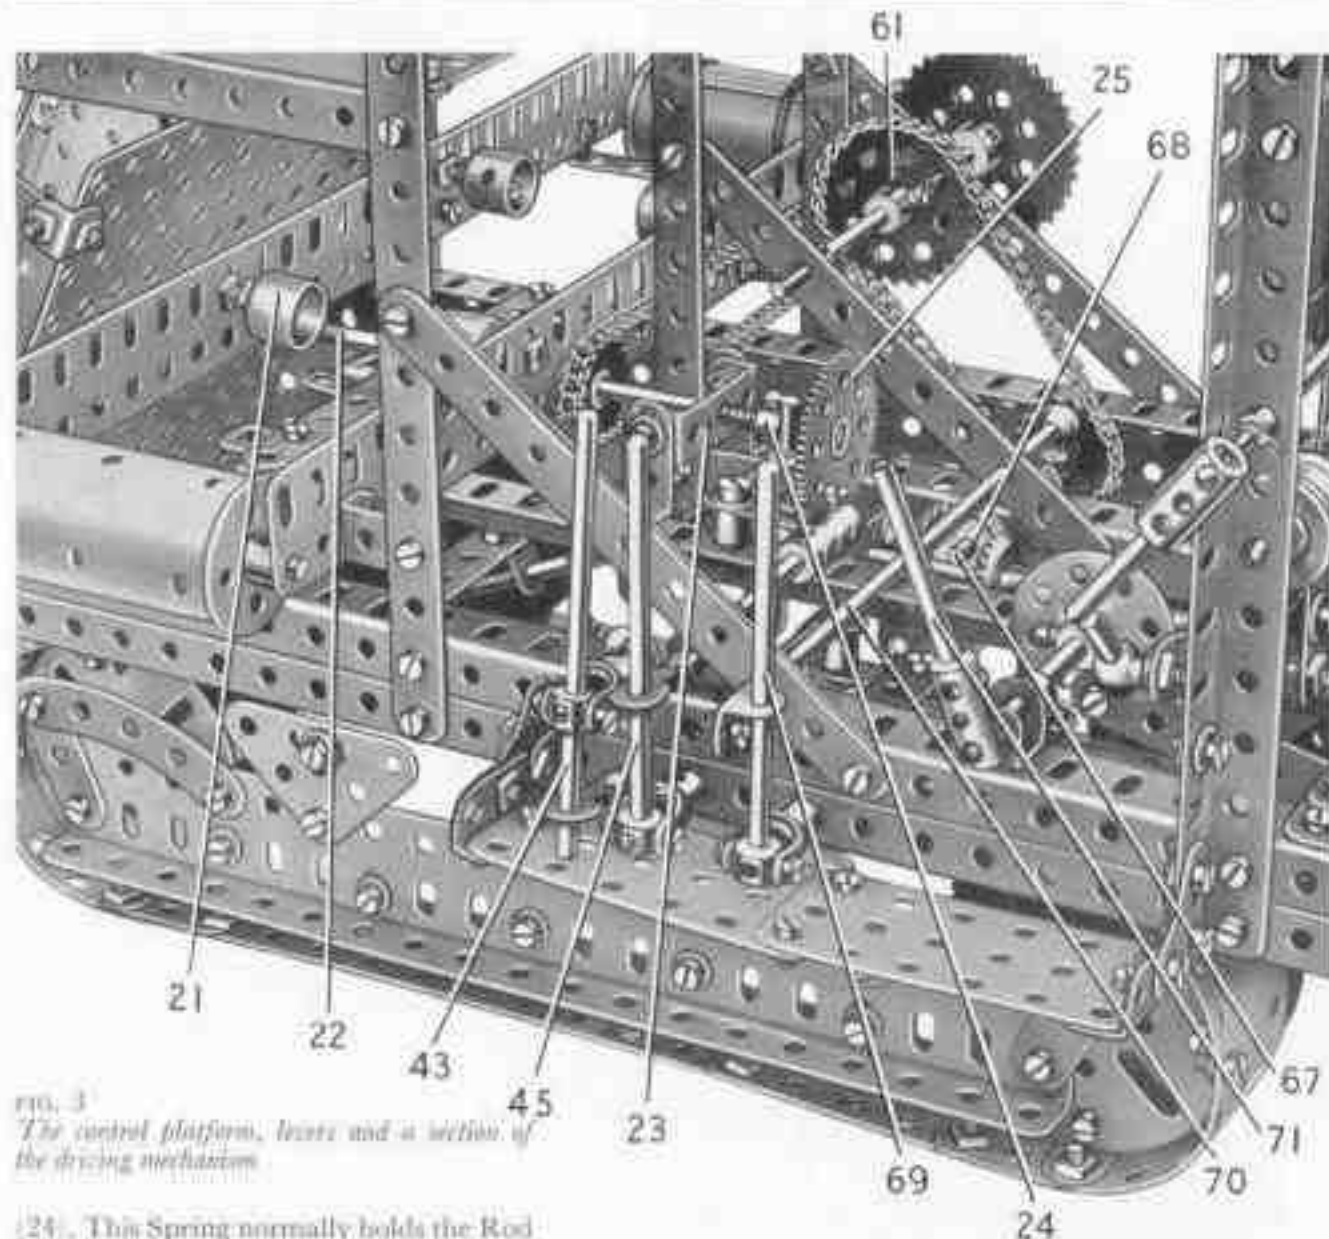
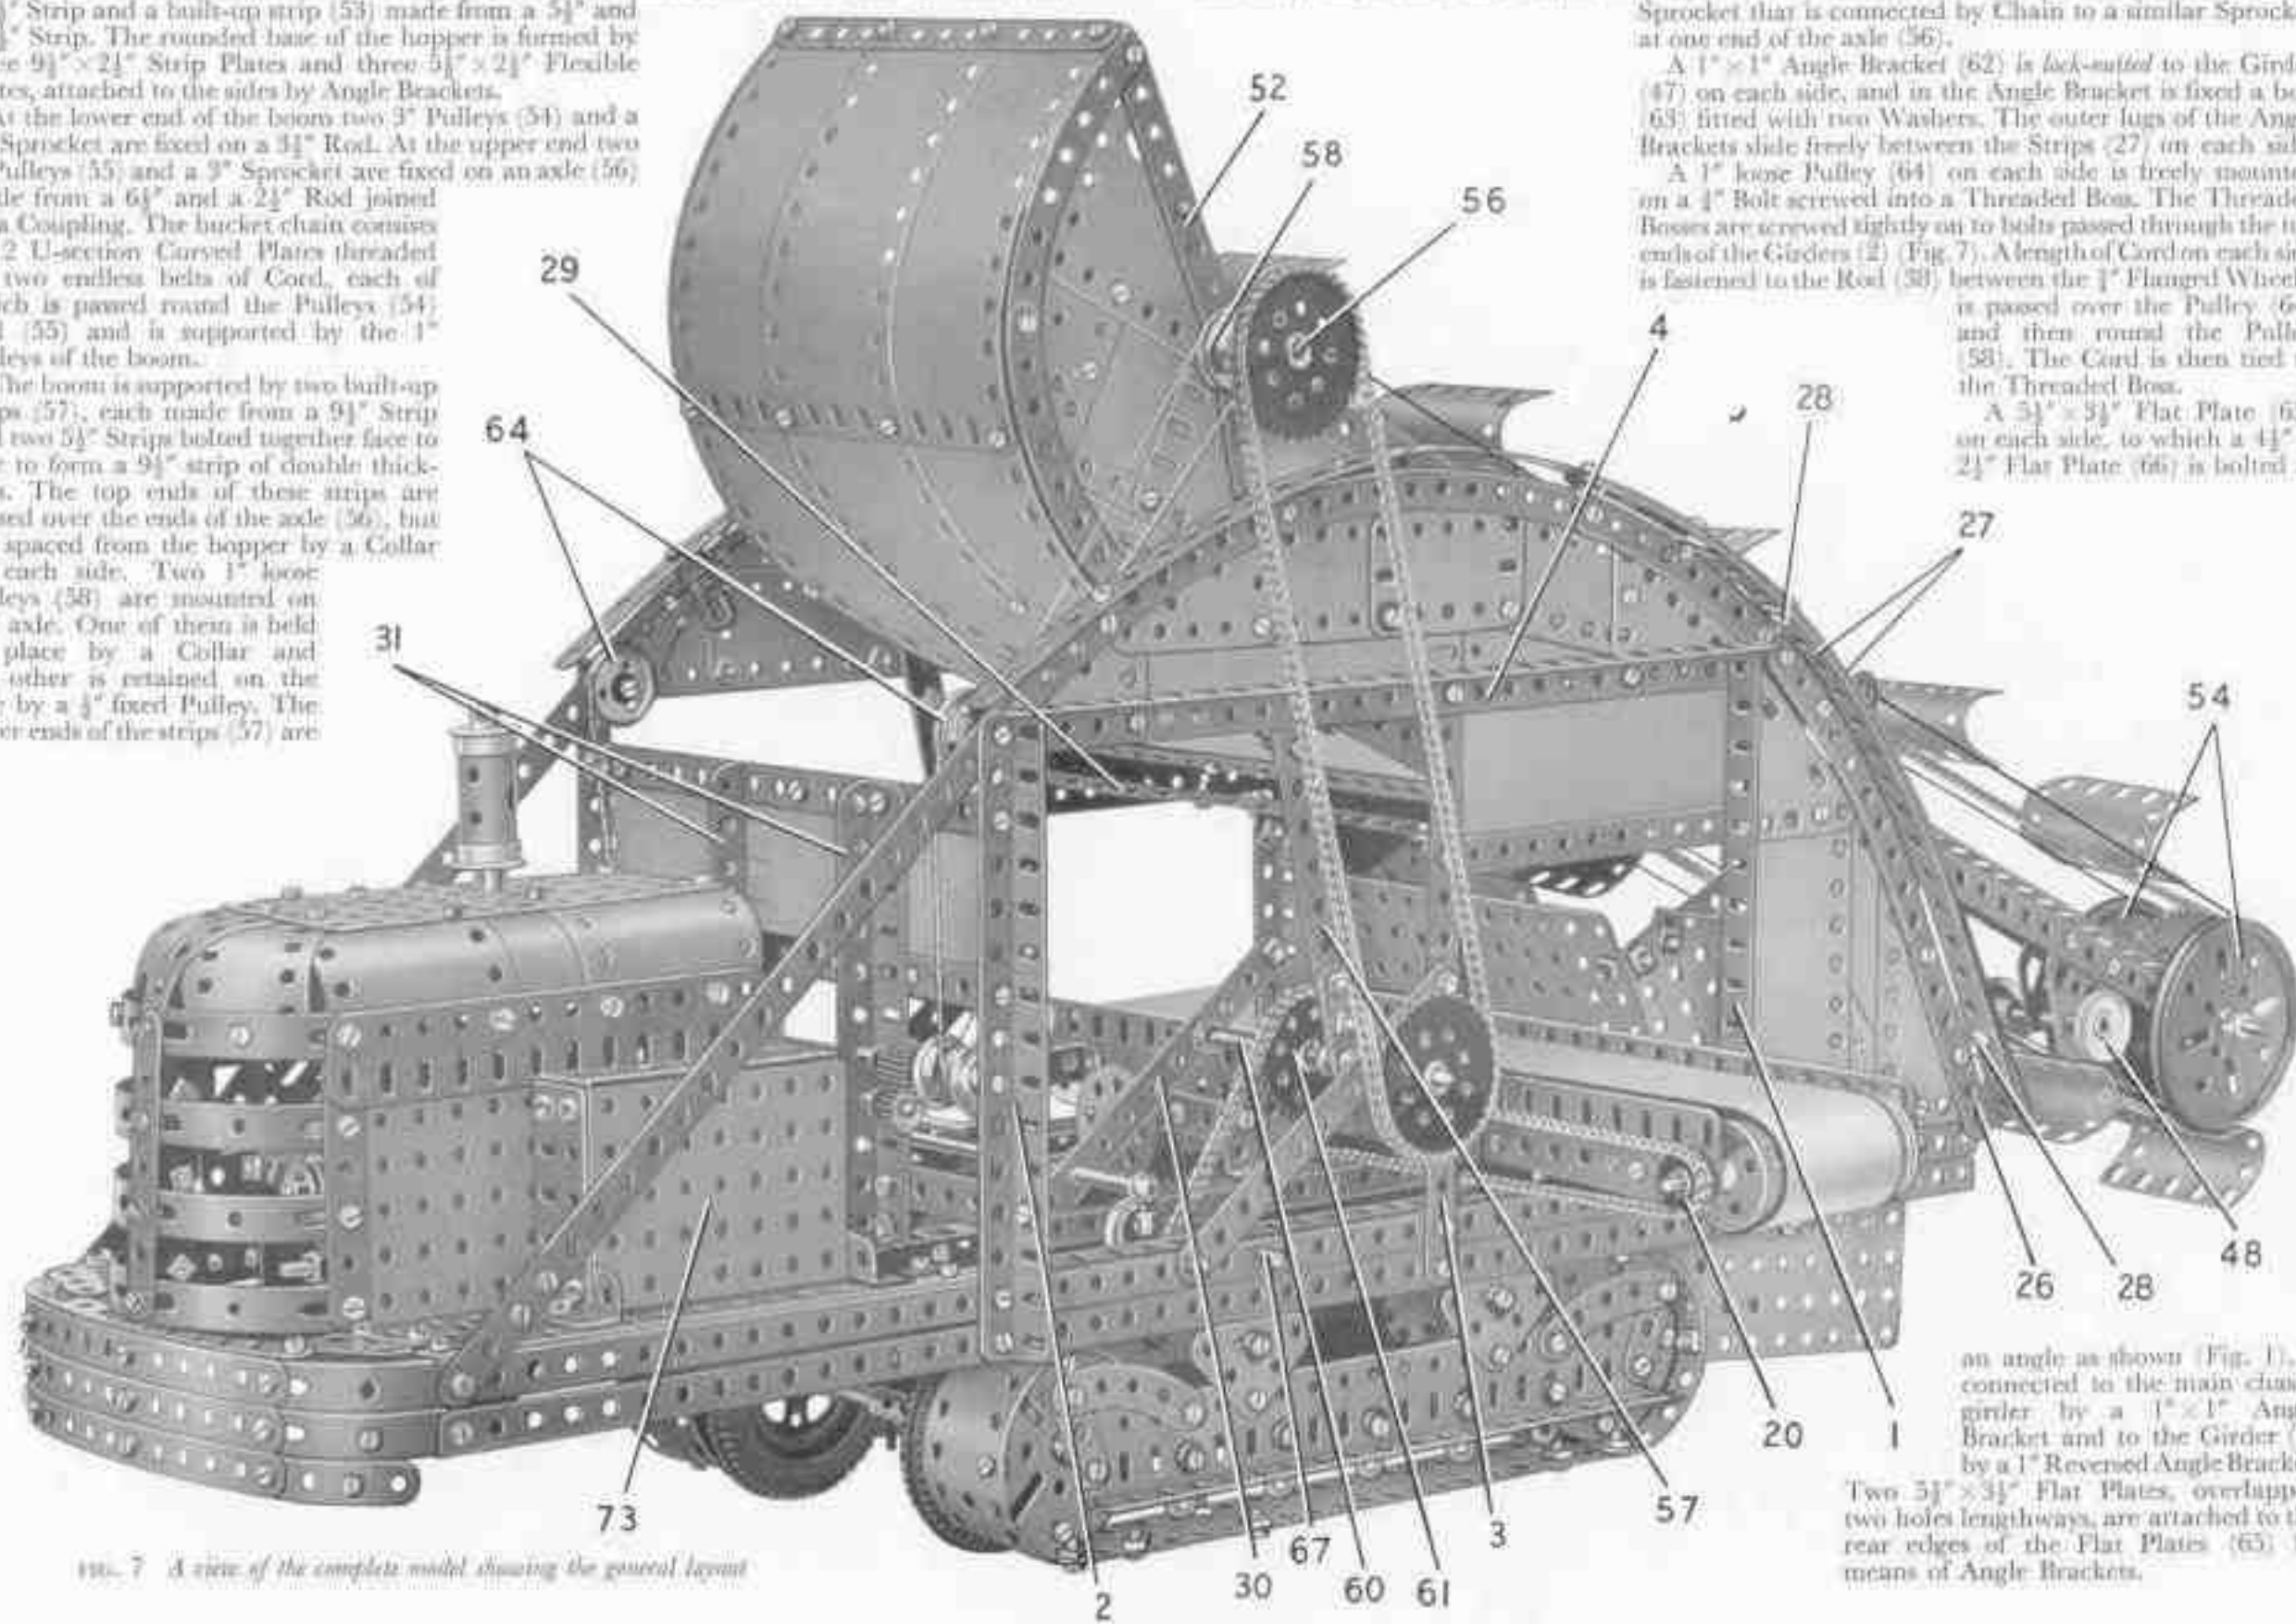

FIG. 3
FIG. 7 A view of the complete model showing the general layout
Each side-member of the chassis consists of two $2\frac{1}{2}$ " Angle Girders arranged to form a channel section girder by bolting to them two $7\frac{1}{2}$ " Angle Girders (1) and (2) and a $7\frac{1}{2}$ " Strip (3) (Fig. 7). The top ends of the Girders (1) and (2) and the Strip (3) are connected by bolting to them a $12\frac{1}{2}$ " Angle Girder (4). The side-members are connected by two built-up strips (5) and (6) (Fig. 2), each made from two $5\frac{1}{2}$ " Strips overlapped seven holes. Two similar built-up strips (7) and (8) are fixed in position, and a further built-up strip (9) (Fig. 3) is bolted across the chassis. The strip (9) is made from two $4\frac{1}{2}$ " Strips overlapped three holes. Two $10\frac{1}{2}$ " Angle Girders (10) are bolted to the strips (5) and (6) as shown.
The Motor switch is operated by a lever (71) (Figs. 3 and 6) formed by a $2\frac{1}{2}$ " Rod in a Coupling. The Coupling is fixed on a $3\frac{1}{2}$ " Rod mounted in Double Brackets bolted to the chassis, and the
The conveyor frame consists of two $12\frac{1}{2}$ " Flat Girders, one of which is attached to the Girders (1) (Fig. 7) by $1\frac{1}{2} \times \frac{1}{2}$ " Angle Brackets while the other is similarly attached to the Strips (3). A $3\frac{1}{2} \times \frac{1}{2}$ " Double Angle Strip (19) (Fig. 2) is bolted between the Flat Girders at one end.
The main conveyor rollers are formed by $1\frac{1}{2}$ " Flanged Wheels pressed into Cylinders, and each is fixed on a $4\frac{1}{2}$ " Rod mounted in the Flat Girders. The Rod that supports the driving roller carries a $\frac{1}{2}$ " Sprocket (20) (Fig. 7), and two $2\frac{1}{2}$ " Driving Bands are stretched round this roller. The belt can be made from a length of cloth or strong paper joined together at its ends. The supporting rollers (21) (Fig. 3) are Chimney Adapters, each of which is free to turn on a $\frac{1}{2}$ " Bolt and is held against the head of the Bolt by two nuts screwed against each other.
The Sprocket (20) is driven by a $1\frac{1}{2}$ " Sprocket on a $6\frac{1}{2}$ " Rod (22) (Fig. 3). This Rod is supported in the conveyor frame and in a $1\frac{1}{2} \times \frac{1}{2}$ " Double Angle Strip (23) that is attached to $1\frac{1}{2} \times \frac{1}{2}$ " Angle Brackets bolted to the Girders (10). A Compression Spring is fitted on the Rod between Double Angle Strip (23) and a Collar
(24). This Spring normally holds the Rod so that a 57-tooth Gear (25) on it is kept clear of the Pinion (15) (Fig. B). The Gear and Pinion can, however, be brought into mesh by sliding the Rod, to engage the drive to the conveyor. The movement of Rod (22) is restricted by a Collar placed inside the conveyor frame, and is controlled by a lever (45) (Fig. 3). This lever is a $3\frac{1}{2}$ " Rod fixed in a Swivel Bearing attached to the chassis by a Pivot Bolt. The lever carries as shown a Rod and Strip Connector fixed on a $\frac{1}{2}$ " Rod that slides in a Double Bracket bolted to the chassis. A Strip Coupling on the $\frac{1}{2}$ " Rod is connected by a $\frac{1}{2}$ " Bolt to one arm of a Bell Crank, and this is mounted freely on a Pivot Bolt fixed in one of the Girders (10). The other arm of the Bell Crank carries a Threaded Pin that engages between the Collar (24) and the Gear (25).
A 1" loose Pulley (64) on each side is freely mounted on a 1" Bolt screwed into a Threaded Box. The Threaded Boxes are screwed tightly on to bolts passed through the top ends of the Girders (2) (Fig. 7). A length of Cord on each side is fastened to the Rod (30) between the 1" Flanged Wheels, is passed over the Pulley (64) and then round the Pulley (58). The Cord is then tied to the Threaded Box.
(Figs. 3, 5, 7 and 8)
A 4" Rod (67) (Fig. 3) is mounted in one of the Girders (10) and in one side of the chassis frame. The Rod carries a 1" Bevel Gear (68), a 1" Sprocket connected by Chain to the 1 1/2" Sprocket (61), and a 1" Flanged Wheel. A Compression Spring is fitted on Rod (67) between the Girder (10) and the Flanged Wheel, and this normally holds the Rod in such a position that Bevel Gear (68) is clear of Bevel Gear (17). The two Bevel Gears can be meshed by moving a lever (69). The lever is a 3/4" Rod held in a Swivel Bearing fixed on a Pivot Bolt bolted to the side of the chassis. An Angle Bracket passed over the lever is *lock-mated* to a Rod and Strip Connector in a 6 1/2" Rod (70), and a Handrail Coupling engages the 1" Flanged Wheel on Rod (67).
The side of the engine cover seen in Fig. 7 consists of a 5 1/2" x 2 1/2" Flat Plate and a 5 1/2" Flat Girder bolted at one end to a 3 1/2" Strip and at the other end to a 3 1/2" Flat Girder. The other side is formed by a 5 1/2" Strip, a 5 1/2" Flat Girder, a 3 1/2" Flat Girder, a 3 1/2" Strip and a 5 1/2" Bevel Girder attached to the 5 1/2" Strip by two Hinges. A 5 1/2" Angle Girder extended by a 2 1/2" Angle Girder is bolted to the lower edge of each side of the engine cover, and these Girders are used to attach the structure to the chassis frame. At one side of the engine cover a box structure (73) is fitted (Fig. 7).